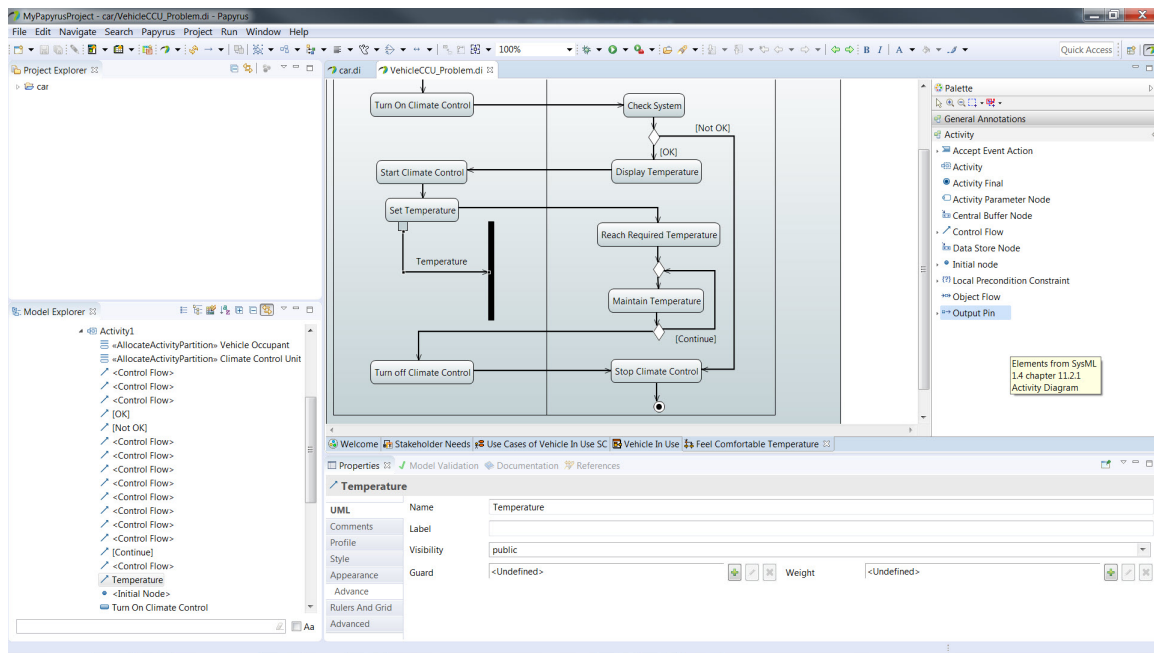

Figure 58: Temperature Output
27. Now we will create an output pin on the *Set Temperature* action to pass the *Temperature* as an output. In the *Activity* palette on the right find the **Output Pin** item and Click on it. Now in the activity diagram Click on the *Set Temperature* action and the output pin will be attached to the action. You can Click and Drag the output pin to the bottom of the *Set Temperature* action. Now create a control flow from the output pin to the fork node and name the control flow *Temperature*. Your activity diagram should look like (figure 58).